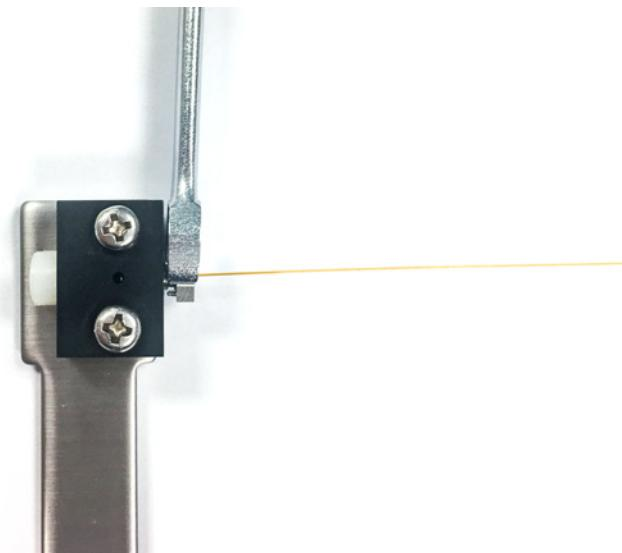

Figure 9. Tighten the internal nut
- c Check if the ferrule is gripping the column. If yes, stop. If not, continue to tighten the internal nut in small 5- to 15-degree increments. Check after each increment to see if the ferrule is gripping the column. Stop as soon as gripping occurs. See Figure 9.